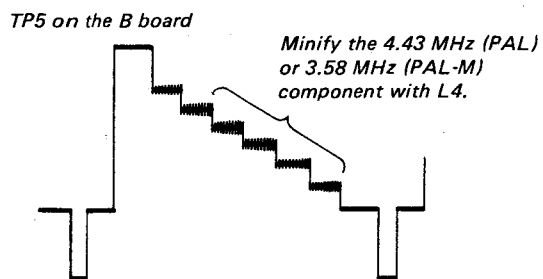

Fig. 5-65.
4. Adjust L4 on the B board so that the 4.43 MHz (PAL) or 3.58 MHz (PAL-M) component is minimum. (See Fig. 5-65.)